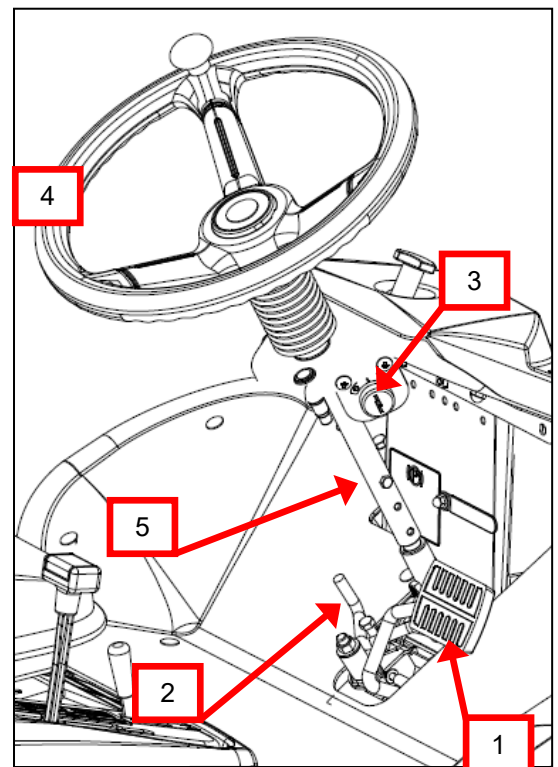

Figure 6
Brake pedal is used in case of emergency or when parking brake is locked (1,2, Figure 6).
Press the brake pedal (1, Figure 6) each time to change the speed. When the brake pedal is pressed, brake works to stop machine.
In case of emergency, press the brake pedal (1, Figure 6) to stop machine, then speed lever returns to N position.
Always inspect the brake before each use. If the brake is not properly adjusted, it may lead to serious accident such as collision or fall. Press the brake pedal, then brake works to stop machine. When the brake pedal is pressed, it is possible to use locking lever (2, Figure 6) to lock the parking brake. When brake pedal is further pressed, parking brake is unlocked. Engine cannot be started when brake pedal is not pressed(locked).
Ignition key (3, Figure 6) is used to start and stop the engine.
The steering wheel(4, Figure 6) is used to allow the direction of the machine. Turn the steering wheel to the right (clock wise) to go right and to the left to go to the left (anti-clockwise) Adjust the steering wheel height (3 positions) by removing the pin (5, Figure 6). Adjust the steering wheel, and secure the pin (5, Figure 6).